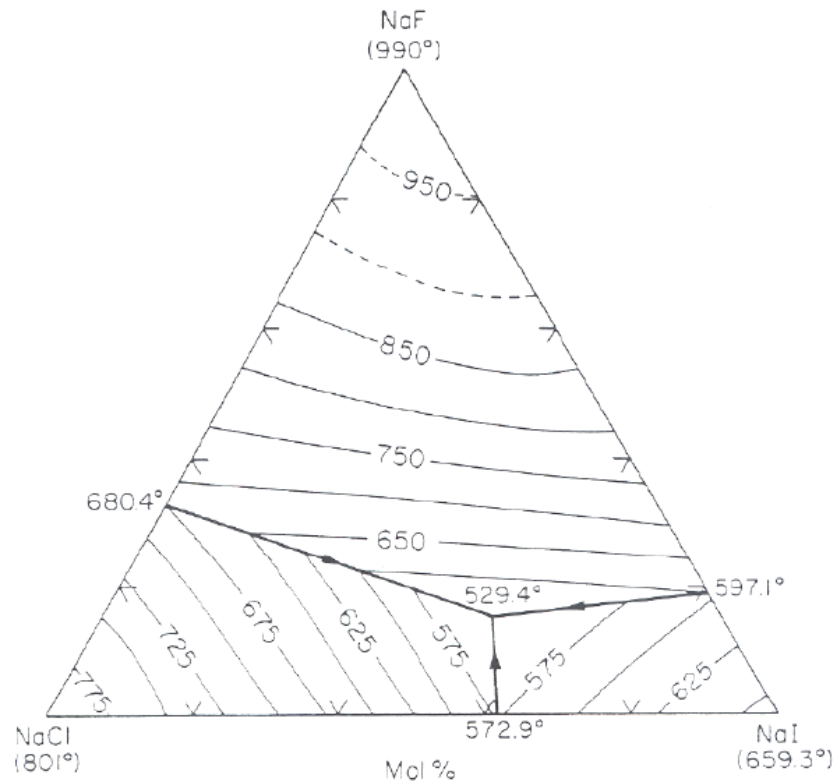

Figure .5: NaF-NaCl-NaI phase diagram. From ref. [?].
10. Calculate and plot the liquidus projection of the ternary phase diagram for the NaF-NaCl-NaI system. The melting temperatures and heats of fusion are as follows: NaF (990°C, 29,300 J/mol), NaCl (801°C, 30,200 J/mol) and NaI (659.3°C, 22,300 J/mol). Assume an ideal liquid solution and negligible solid solubility. Compare your result with the experimental diagram shown in Figure .5. Why might they be different?